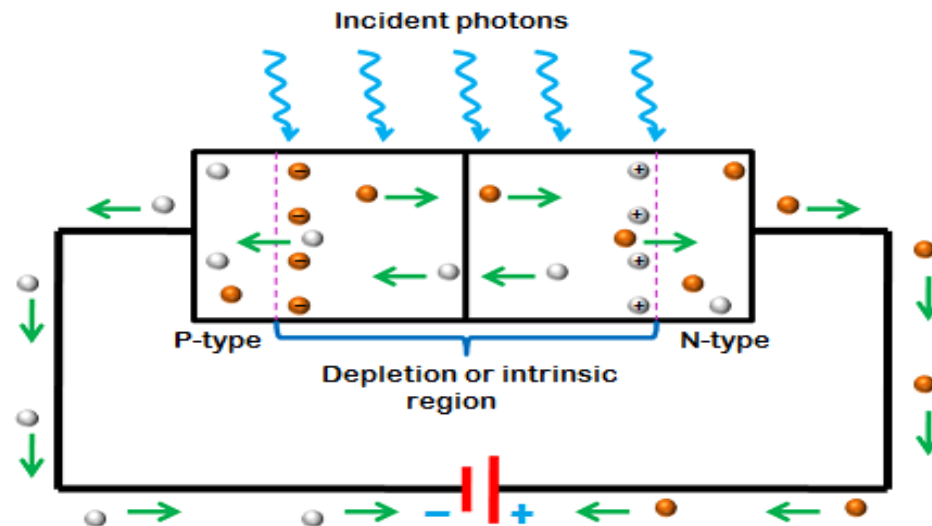

FIG 11. Photodiode
- A photo detector is a semiconductor device which converts light energy to electrical energy. It consists of a simple P-N junction diode and is designed to work in reverse biased condition. The photons approaching the diode are absorbed by the photodiode and current is generated.⁴ See figure 11.